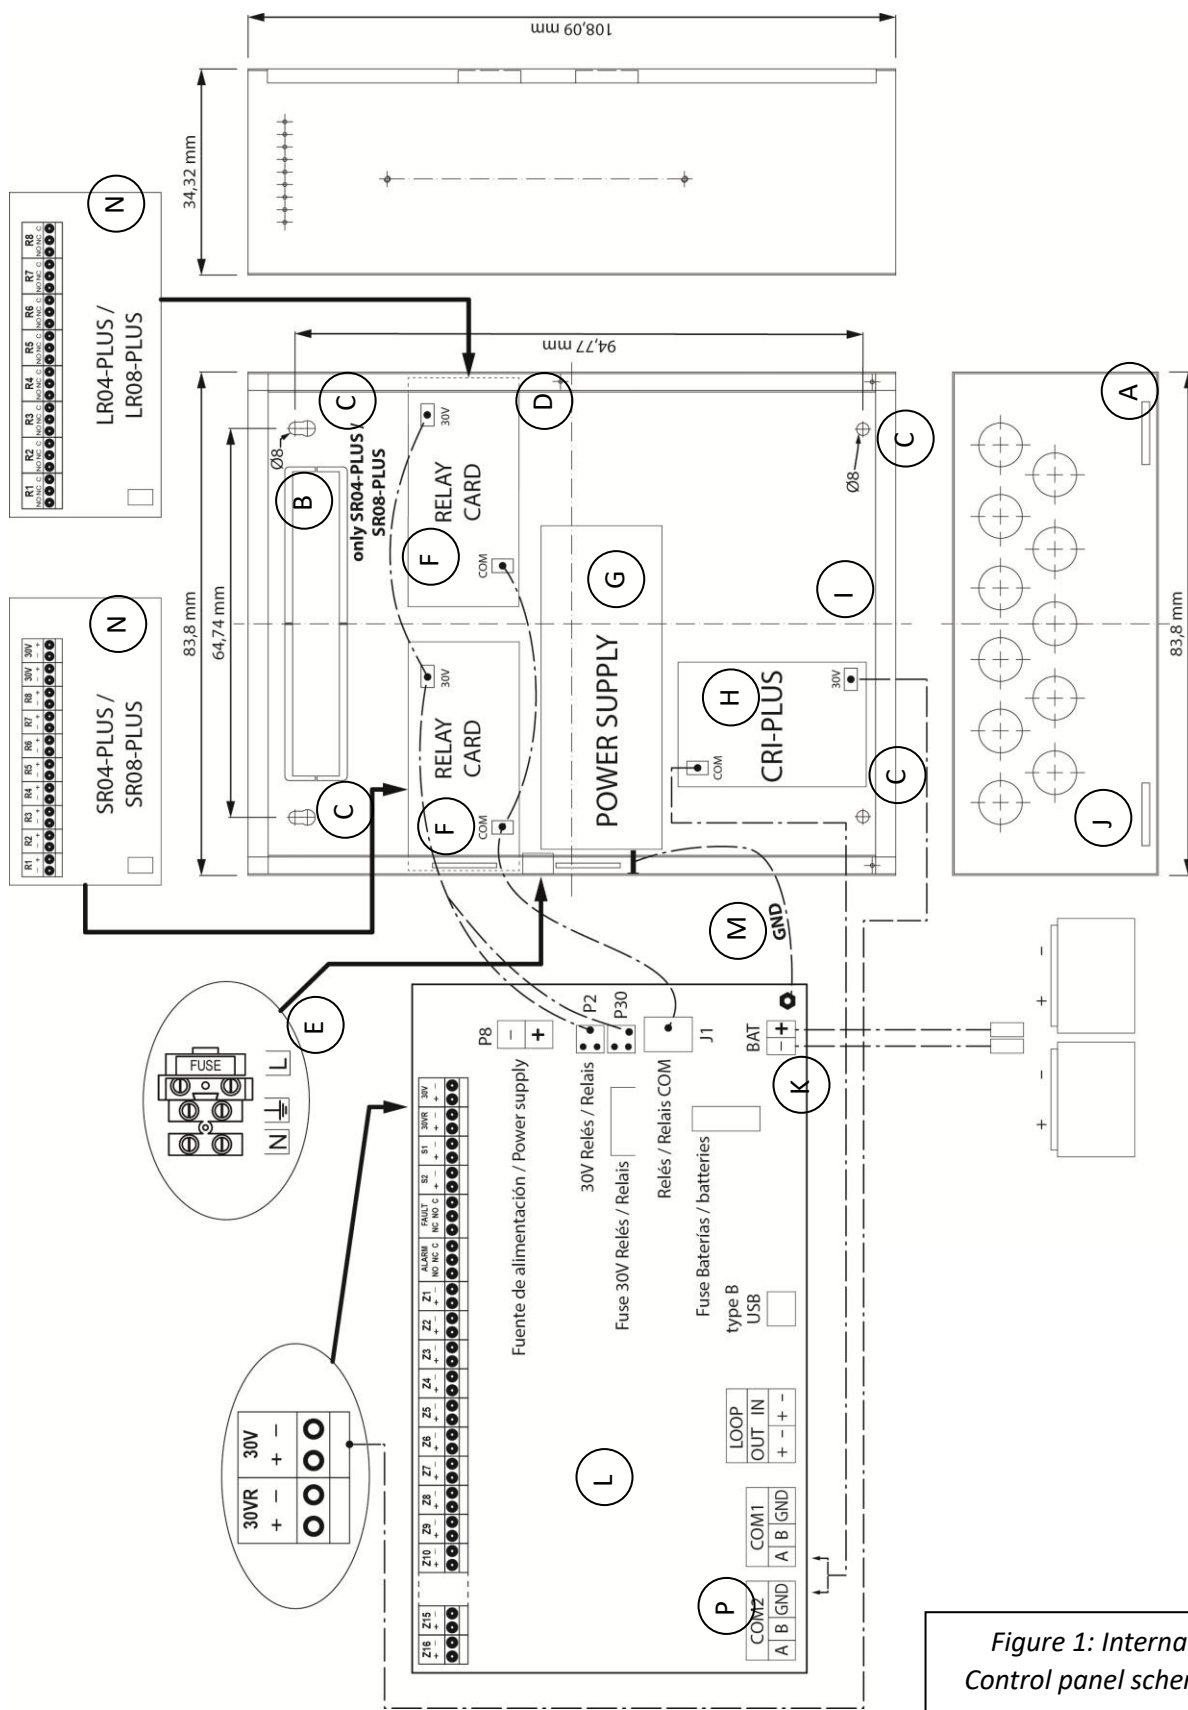

Figure 1: Internal
The CCG-XXZPLUS control panel is made up of a metal box with a plastic front door fixed with two tabs at the top and two screws in the lower corners. It has 13 pre-drilled holes ($\varnothing 28\text{mm}$) at the top (A) [figure 1] for wiring, as well as a rectangular 200 X 40 mm one at the top bottom of the box (B). It is screwed to the vertical wall with 4 screws ($\varnothing 8\text{mm}$) located at its corners (C). The cover plate is located in the central front area held by a screw in the right-hand side profile (D) and rotates on the left profile, opening like a door allowing access to the inside of the box.
This space allows a maximum of 2 cards, with card number 1 placed on the left and card number 2 on the right. The relays are numbered from left to right inside the control panel, starting with those on card 1 and continuing with those on card 2. The cards will be connected to the CPU according to the diagram in [figure 1]. The LRxx-PLUS cards connect from the CPU connector J1 to the LRxx-PLUS COM. The LRxx-PLUS cards have two connection lines, the first line from the CPU connector J1 to the LRxx-PLUS COM and the second line from the CPU connector P2 or P30 to the LRxx-PLUS 30V connector. This second line only supplies power to the output of the supervised relays on the LRxx-PLUS cards. The LRxx-PLUS cards can be powered by an external power supply independent of the control panel itself.
Drill the necessary holes to attach the control unit to the wall. To do this, take into account the holes (C) [figure 1] located in the corners of the box.
For safety reasons, the power supply cable must be as short as possible inside the control panel. The power supply cable should then enter the control panel through the upper left hole (J) [figure 1] with the minimum length inside to allow a good connection.
The card must be placed in the space (F) [figure 1] of the box. This space admits a maximum of 2 cards, with the card number 1 placed on the left and the card number 2 on the right. The cards must be properly identified by their microswitches (N):
The card must be placed in the space (H) [figure 1] of the case. Each card has 4 holes in the corners that match the 4 pins on the case intended for this card.
The battery output (marked K in [figure 1]) is monitored and protected by a glass cartridge fuse and allows the batteries to be connected to the control unit. Both battery charging and battery status monitoring are carried out from this connection point. The output is protected by hardware against polarity reversal.